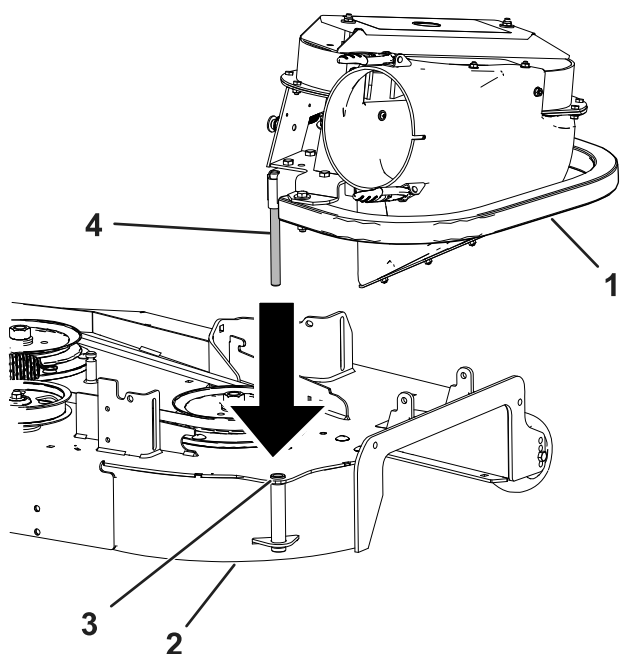

Figure 32
1. Align the pivot pin on the blower with the pivot-pin hole in the mower deck (Figure 32).
2. Lower the blower and slide the pivot pin into the pivot hole (Figure 32).